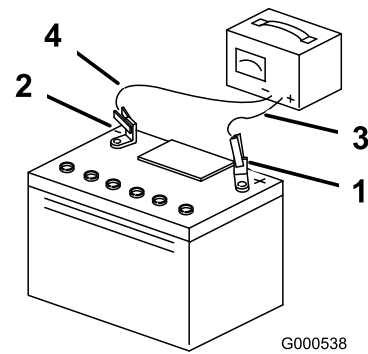

Figure 53
4. When the battery is fully charged, unplug the charger from the electrical outlet, then disconnect the charger leads from the battery posts (Figure 53).